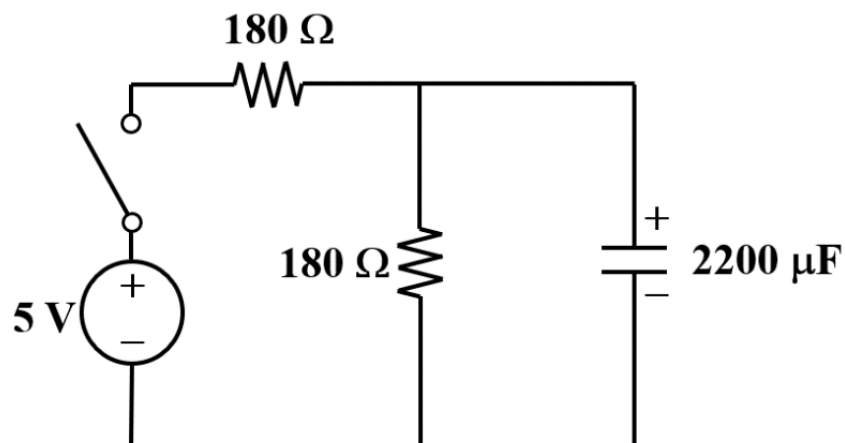

Figure 1: Circuit diagram for DC transient analysis on capacitor charging.
The circuit diagram in Figure 1 shows a capacitor charging circuit. When the switch is closed, the capacitor starts to get charged, and its voltage increases in a non-linear manner. From the e-lecture, we have learnt that the voltage of a capacitor in a series RC circuit during charging can be modelled using the following expression:
However, as can be seen in Figure 1, the capacitor is not in a series RC circuit for our case. In this part of the activity, you shall practice deriving the equivalent series RC circuit, so that you can apply the above transient voltage equation directly.
3. Suppose the switch in Figure 1 has been opened for a very long period of time, and will be closed at time $t = 0$. What is the voltage $v_c(t)$ across the capacitor just before the switch is closed (i.e., at $t = 0^-$)? What is the voltage $v_c(t)$ just after the switch is closed (i.e., at $t = 0^+$)? What is the expected voltage $v_c(t)$ at steady-state after the switch is closed (i.e., at $t = \infty$)?
7. Using the breadboard, construct the circuit shown in **Figure 1**. **Check that the polarity of the capacitor is correct.** You can emulate the function of a switch by connecting everything else in the circuit except the “+” (i.e., red) wire of your USB breakout cable, and then finally connecting the “+” wire to the circuit only when you are ready to power up the circuit. You can leave the “+” wire disconnected for now.